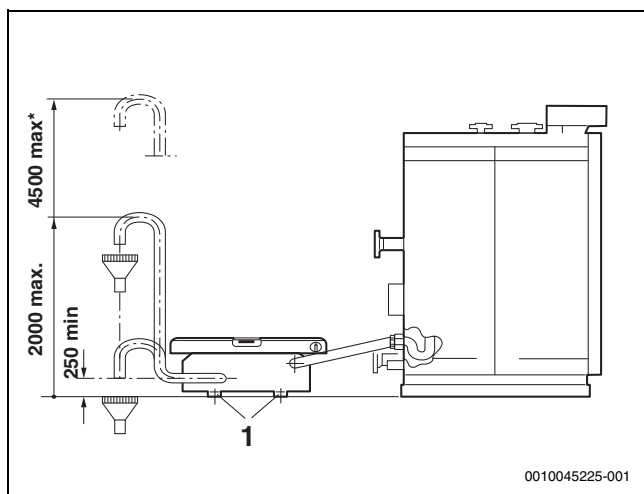

Fig. 2 Height dimensions
If possible, the condensate neutraliser should be located near the floor standing boiler or heat exchanger. The height dimensions in figure 2 must be strictly observed.
- ▶ Align the granule trough horizontally with the adjustable feet (→ figure 2, [1]).